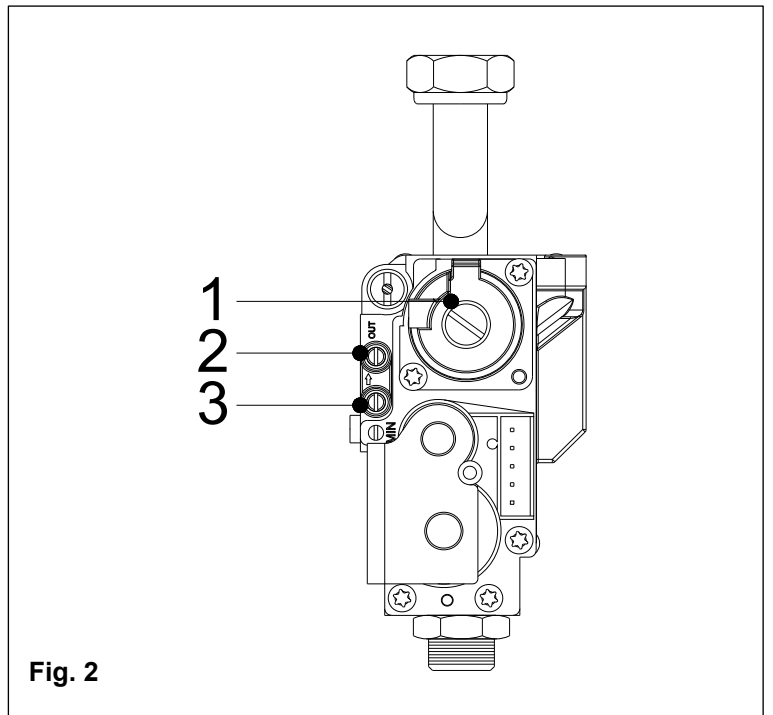

Fig. 2
- set ON/OFF switch **1** in OFF position, insert a gauge into the pressure point no. 2 (fig. 2). Turn ON the boiler and check the minimum and maximum gas pressure setting in accordance with values stated on the gas data plate (to check maximum gas pressure value, turn ON a hot water tap and check that the maximum pressure is equal to that stated on the gas data plate; to check the minimum gas pressure, close the hot water tap, and select WINTER mode, the pressure gauge will show the minimum gas pressure value for 10 seconds. If the pressure values are not the same as those stated on the gas data plate, calibrate pressure again;